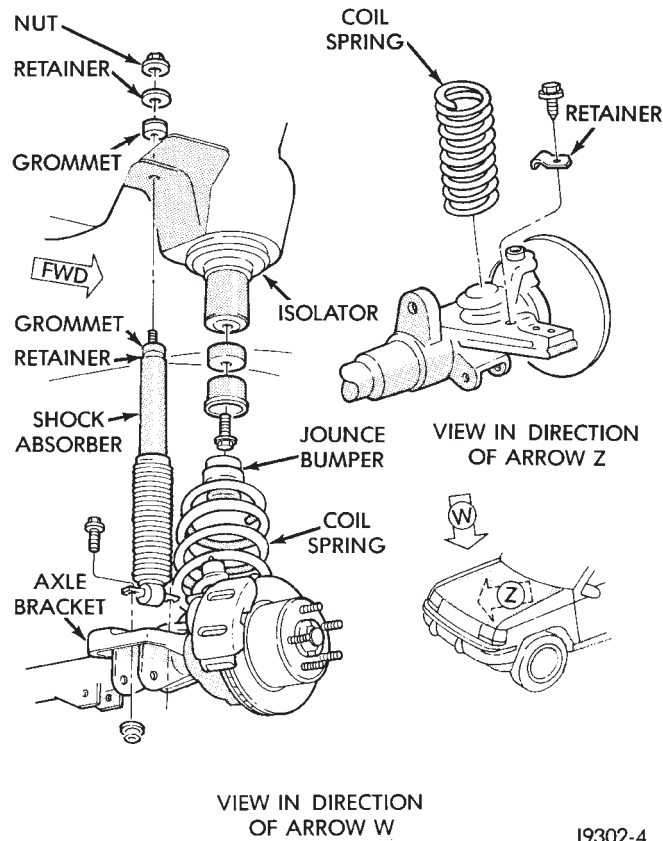

Fig. 2 Coil Spring & Shock Absorber
- (1) Remove the nut, retainer and grommet from the upper stud in the engine compartment (Fig. 2).
- (2) Remove the lower nuts and bolts from the axle bracket. Remove the shock absorber.
- (1) Raise and support the vehicle. Position a hydraulic jack under the axle to support it.
- (2) Remove rear lower suspension arm bolts.
- (3) Remove caliper flex hose brackets from the frame rails.
- (4) Remove ABS sensor wires from brackets.
- (5) Disconnect the stabilizer bar link and shock absorber from the axle.
- (6) Disconnect the track bar from the frame rail bracket.
- (7) Disconnect the drag link from the pitman arm.
- (8) Lower the axle until the spring is free from the upper mount. Remove the coil spring retainer bolt (Fig. 2) and remove the spring.
- (9) Remove the jounce bumper if necessary from the upper spring mount (Fig. 2).